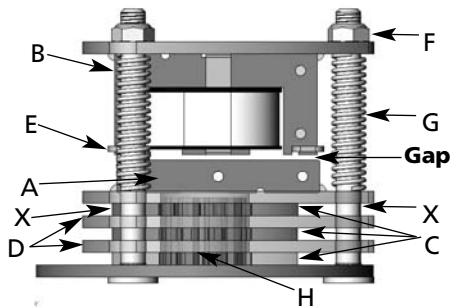

Figure 5 — Brake Assembly
2. Refer to Figure 5. Open disc brake manually by using two screwdriver blades, one on each side of the brake at a point close to the brake spring posts. Apply pressure to the underside of the armature plate (points "X") to close the solenoid and release the brake.
Refer to Figure 5.
2. With reference to Figure 5, the gap between the brake armature "A" and the field "B" should be checked. The correct gap is 0.015". Adjustment should not be necessary until gap reaches 0.040".